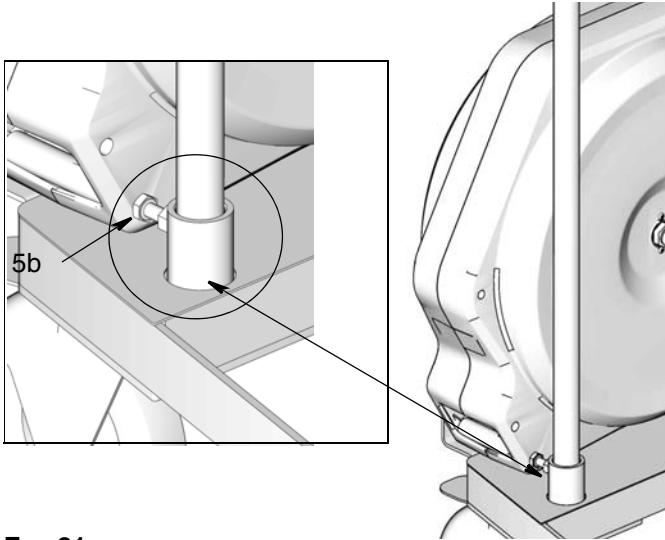

FIG. 31
- Secure handle sub-assembly (5a) to cart (5) using supplied bolts (5b) as shown in FIG. 31. Use a screwdriver to tighten bolts securely.